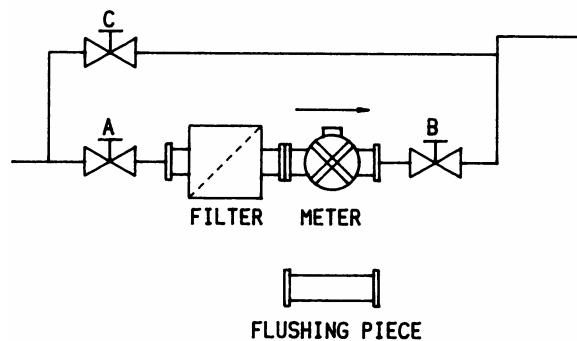

Fig. 17, Flowmeter system with bypass
1. Close valves A, B and C (Fig. 17).